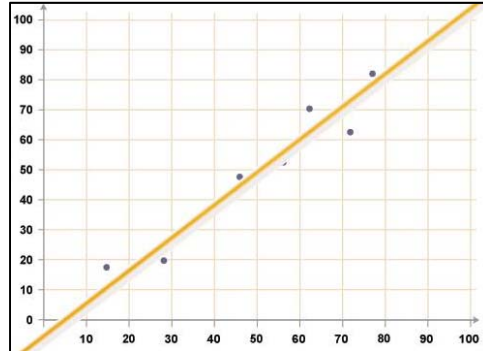

Figure 12. Example of use of a spaghetti strand to find the best fit straight line through a set of data points.
- Position a strand of spaghetti on the graph and position it so that the plotted points of a given species, denoted by the same color, are as close to the strand as possible as shown in Figure 12.